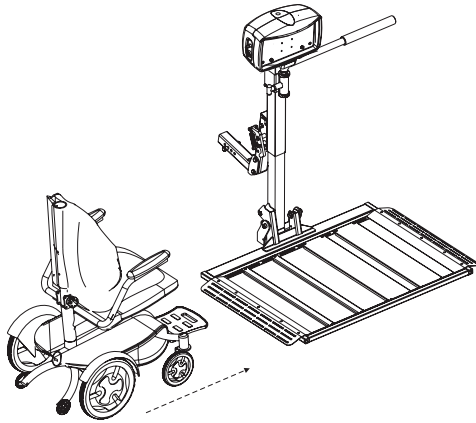

Figure 6-10
1. Position the power chair onto the platform after the cradles or wheel chocks have been adjusted, if applicable. *See Figure 6-10.*